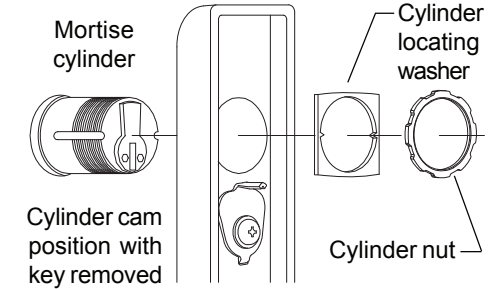

Figure 4. Cylinder installation.
- B. Install cylinder for 376-T or 376-T-NL control (Figure 4).